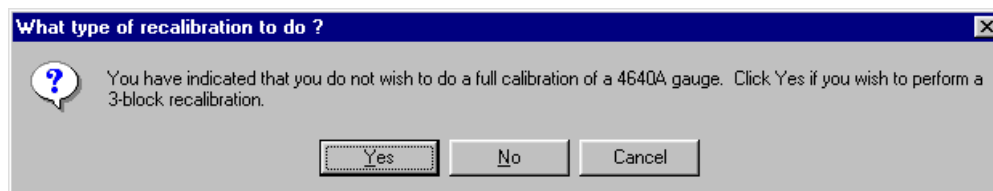

Figure 4–14. Recalibration Type Query
7. If the user clicks the **<No>** button on the preceding message box, the message box shown in Figure 4–15 is displayed.